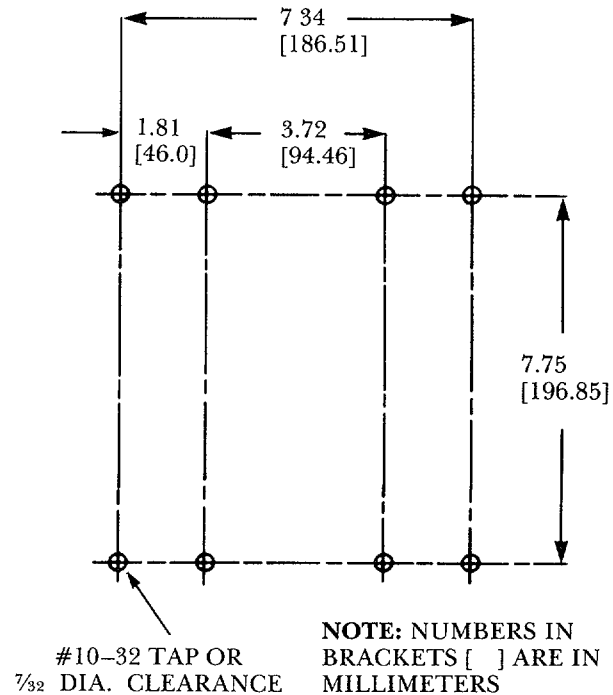

Figure 1. Mounting Hole Pattern
1. Drill and tap panel face for #10-32 tapped or $\frac{7}{32}$ dia. clearance holes per the hole pattern in Fig. 1.